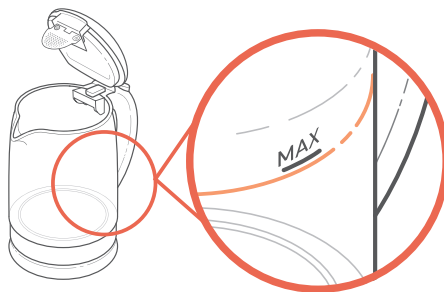

Figure 2.1
2. Fill the kettle to the desired level. **Do not** fill above the **"MAX"** line. [Figure 2.1]